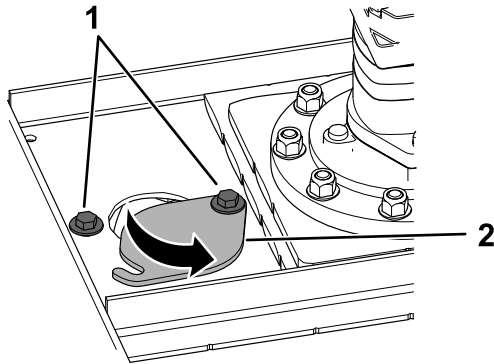

Figure 9
1. Loosen the 2 bolts securing the blade-access cover and move the cover out of the way (Figure 9).
5. Close the access cover and tighten the bolts (Figure 9).